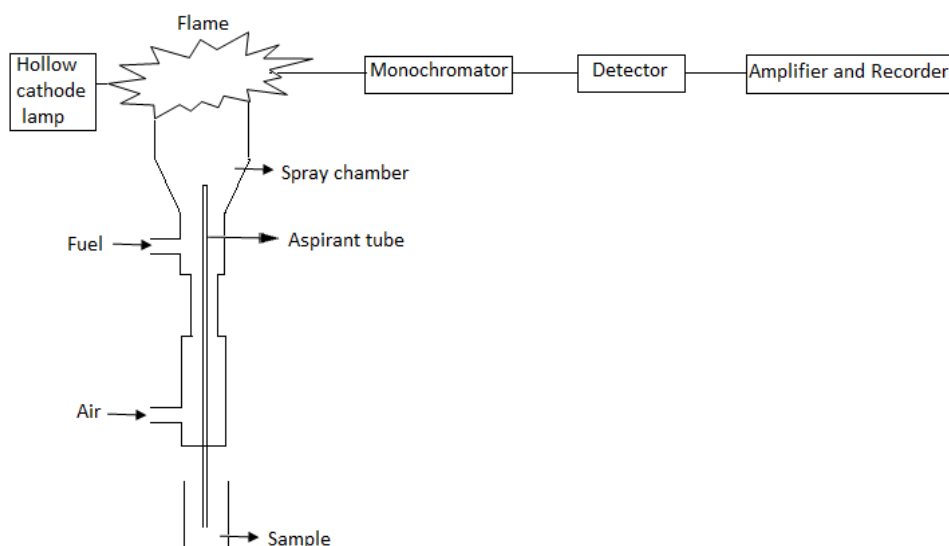

Fig. 5 Atomic Absorption Spectrophotometer
- A simple atomic absorption spectrophotometer consists of a source emitting radiation (Hollow cathode lamp), Flame and spray chamber, monochromator, detector (Photomultiplier) and Recorder (Fig. 5).